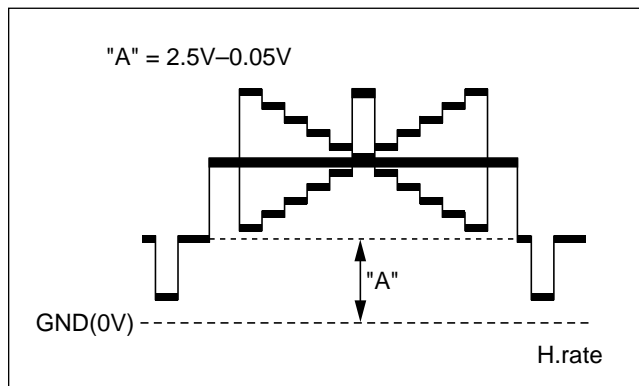

Fig. 3-4-2 Black level
- 2) Adjust VR7102 so that DC level of "A" (between the pedestal level and GND, see Fig. 3-4-2) of a waveform becomes $2.5 V \pm 0.05 V$.